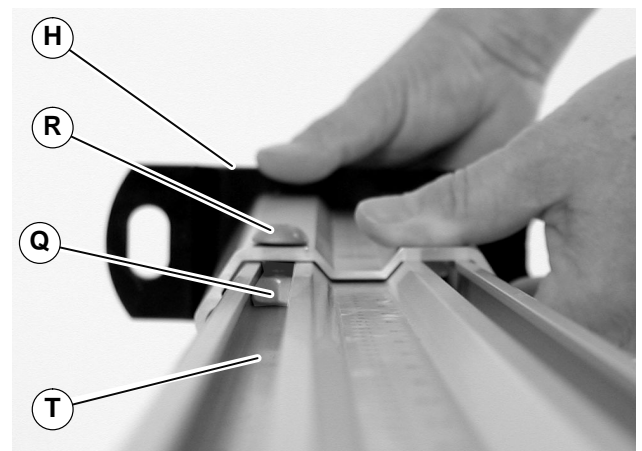

Figure 13
<p>Failure to secure screws (R of Figure 13) may cause conveyor sections to drop down causing severe injury.</p> <p>TIGHTEN SCREWS (R) AFTER ADJUSTMENT.</p>
3. Slide (2) hex nuts (Q of Figure 13) along with boot assembly (H) into outer slots of stand assembly (T). Tighten button screw (R) to 150 in-lb (17 N-m).